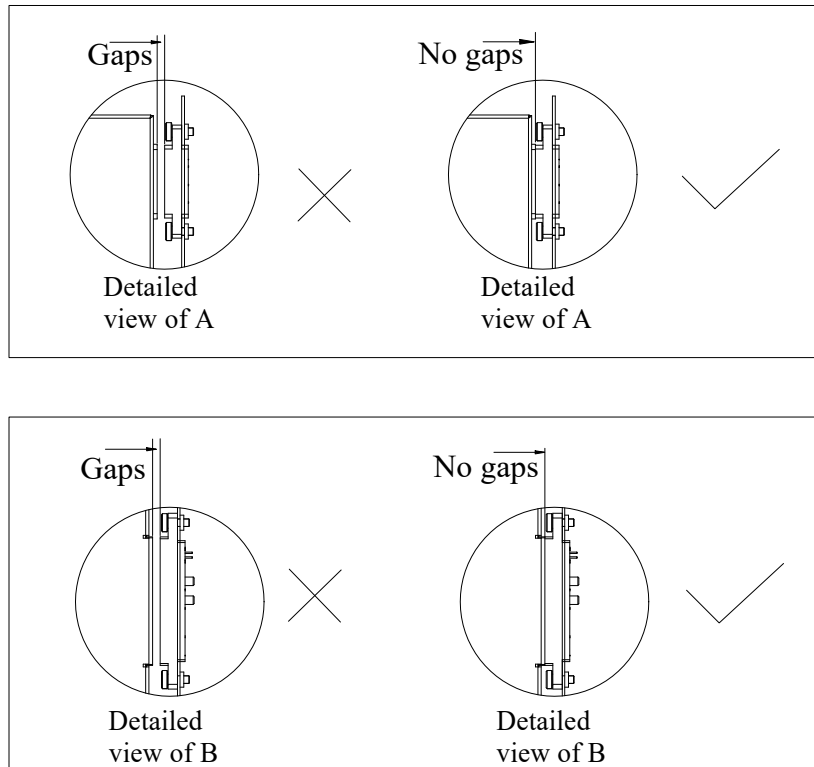

Figure 2-8 Module connector and System connector Installation
2) After the module is mounted on the pile, it is required that module connector and system connector are tightly connected, no gaps allowed. Ensure module connector and system connector are connected reliably, see Figure 2-8.